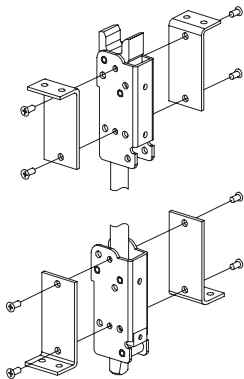
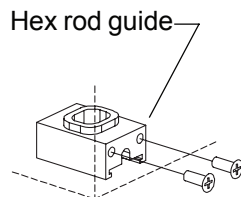

Figure 1-1
Figure 1-2
- 1a For hollow metal door, attach latch brackets to sides of top and bottom latches with #10-32 x 1/4" UFPH machine screws (Figure 1-1).
- 1c Install bottom rod assembly into door. If using rod latch (RL) bottom rod assembly: For hollow metal door, secure each latch bracket to door with two #10-32 x 3/8" FPH machine screws; for aluminum door, secure top latch to door with two #10-32 x 1/4" UFPH machine screws through face of door into front mounting holes on latch.
- 1d For hex bottom rod, install hex rod guide in door with #10-24 x 3/8" UFPHTC screws (Figure 1-2).